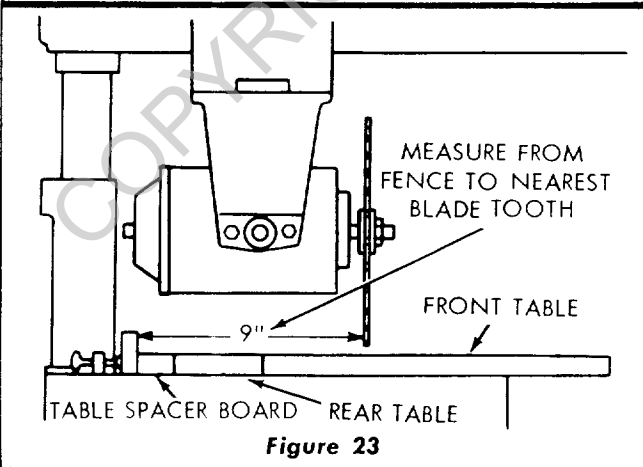

Figure 23
The "Out-Rip" scale indicator on the left-hand side of radial arm is adjusted in essentially the same manner as the "In-Rip" indicator, except the blade should be positioned as in figure 23. With 9-inches measured between the fence (when in full rear position) and face of saw blade, the indicator should be positioned to read 9-inches on the lower portion of the "Out-Rip" scale.
**NOTE:** With the saw blade and fence in the position shown in figure 23, the lower portion of the "Out-Rip" scale is used. If the fence is moved to normal position (at the rear of front table) the upper portion of the "Out-Rip" scale is used.